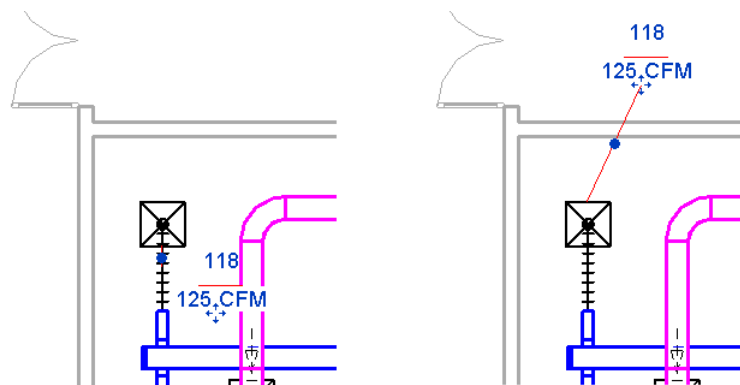

Figure 2-55
- Pan over to the lower left room in the building. Select the tag that overlaps the ductwork as shown on the left in Figure 2-55.
- Use the **Move** control to move the tag outside the room to a position in which it is not overlapping anything as shown on the right in Figure 2-55.